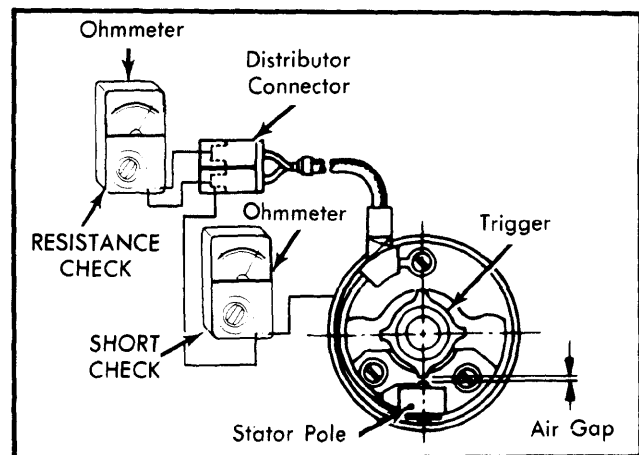

Fig. 6 Ohmmeter Hookups for Pick-Up Coil Resistance and Short Check
1) Turn the ignition switch "OFF". Disconnect 2-wire distributor connector. Connect an ohmmeter set in the x100 scale with one lead touching each terminal of distributor harness connector. See Fig. 6.
3) Next, attach ohmmeter leads to either terminal of distributor connector and to distributor housing. An infinity reading should exist. See Fig. 6. Also check air gap.